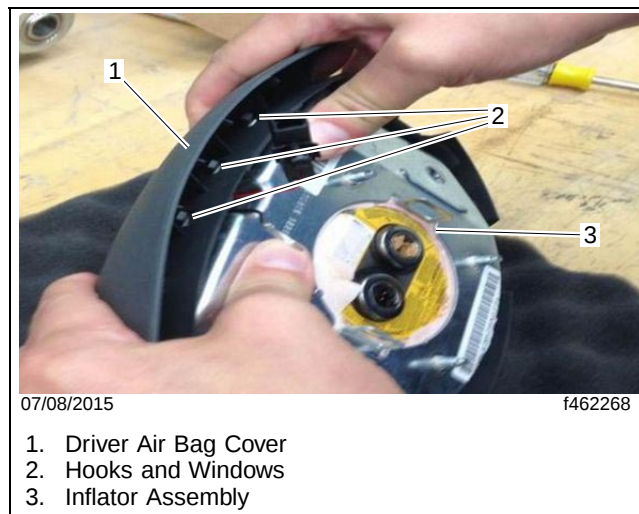

Fig. 5, Disengaging the Top Inflator Assembly Hooks
- 12.2 Unsnap the top hooks by pressing down on the inflator assembly until the hooks unsnap from the air bag cover windows. See **Fig. 5**.